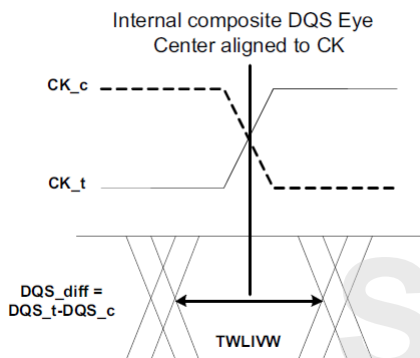

Figure 25. DQS_t/DQS_c to CK_t/CK_c timings at the DRAM pins referenced from the internal latch
28) t_{WLIVW} is defined in a similar manner to t_{lVW_Total} , except that here it is a DQS input valid window with respect to CK. This would need to account for all VT (voltage and temperature) drift terms between CK and DQS within the DRAM that affect the write-leveling input valid window. The DQS input mask for timing with respect to CK is shown in Figure 25. The "total" mask (t_{WLIVW}) defines the time the input signal must not encroach in order for the DQS input to be successfully captured by CK with a BER of lower than tbd. The mask is a receiver property and it is not the valid data-eye.